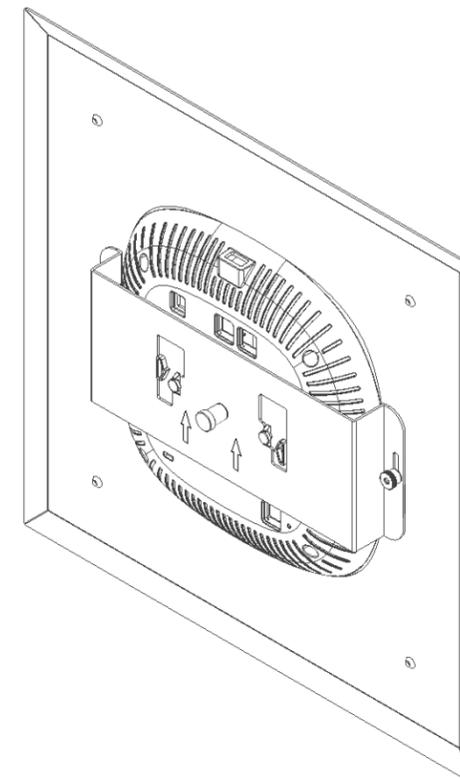

Figure 3 - Lock AP Into Trim
**Step 4** – The mounting pegs on the bottom of the access point should protrude into the widest portion of the mounting bracket's slots. If they don't, slide the mounting plate so that the mounting pegs fall into the widest section of the mounting brackets slots. Lock the access point in place by sliding the mounting bracket in the direction shown in Figure 3. The plunger on the mounting bracket will fall into the hole on the back of the access point locking it into place. Complete the assembly by securely tightening the thumb nuts.